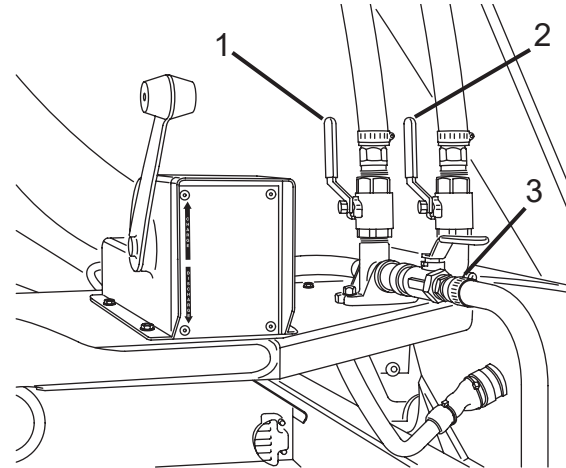

Figure 117
12. Open wash-out hose valve (Figure 117, Item 3) at the rear of the Mixer and allow water to drain.
13. Open wash-out valve (Figure 117, Item 1) and add-water valve (Figure 117, Item 2) and allow water to drain through wash-out hose.